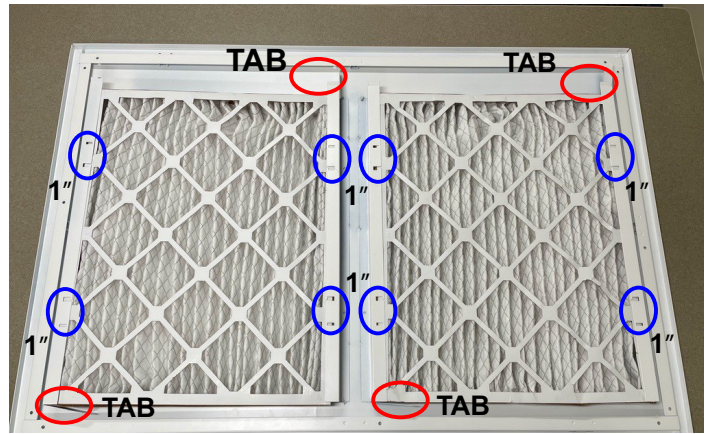
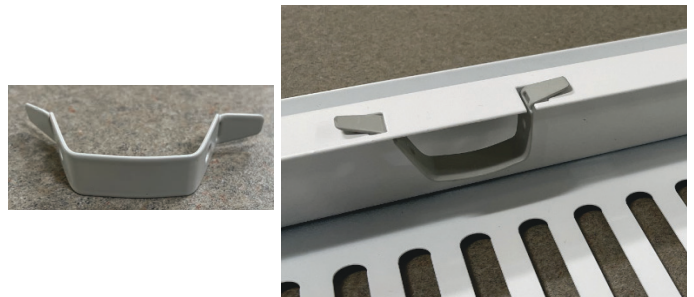

Fig. 3 – Louver Panel Tab Locations
Fig. 4 – 1" Spacer / Spacer Installed
- c. Bend the 4 tabs (indicated with **TAB** notations, Fig. 3, Fig. 5) on the filter racks to secure the filter in the rack.
- c. Insert the spacers into the notches provided on the filter rack (indicated by the 1" notations in Fig. 3, Fig. 4).
- d. Bend the 4 tabs (indicated with **TAB** notations, Fig. 3, Fig. 5) on the filter racks to secure the filter in the rack.